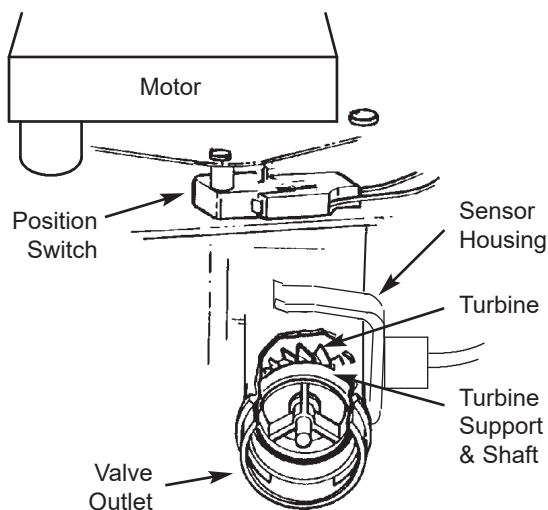

FIG. 34
**NOTE:** If you don't get a reading in the display with faucet open, pull the sensor from the valve outlet port. Pass a small magnet back and forth in front of the sensor. If you get a reading in the display with the magnet, unhook the in and out plumbing and check the turbine for binding (See Figure 34).